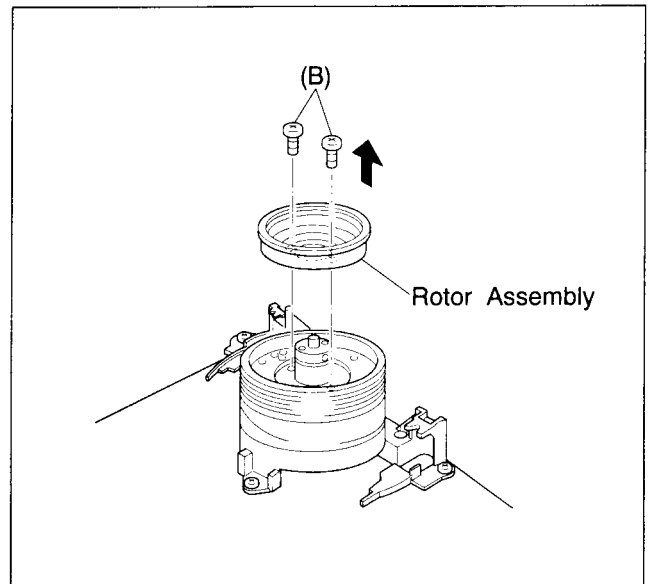

Fig. 2-5-23
- (4) Overlap holes (a) of the upper drum assembly with holes (b) of the rotor assembly and secure with 2 screws (B) as indicated in Fig.2-5-23.